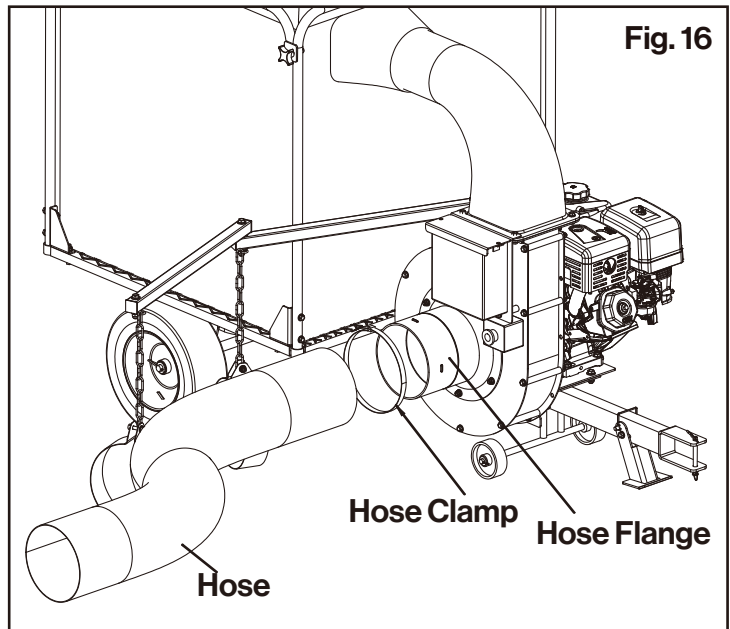

Fig. 16
- Insert one hose end with the hose flange by tightening the hose clamp. **(Fig.16)**